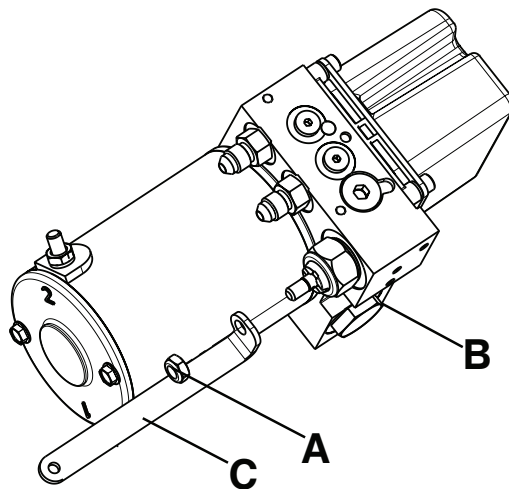

Figure 38 – Non-locking manual valve
5. Using a 7/16" deep well socket and 3/8" drive ratchet, remove the Nylock hex nut (A) that secures the non-locking manual valve (B) to the manual release link (C) (Figure 38).
Note - Place a 1/16" hex wrench through the slot on the non-locking manual valve (B) to keep it from turning (Figure 38).
- Using a 7/8" deep well socket and 3/8" drive ratchet, remove the non-locking manual valve (B) (Figure 38). Discard the valve.